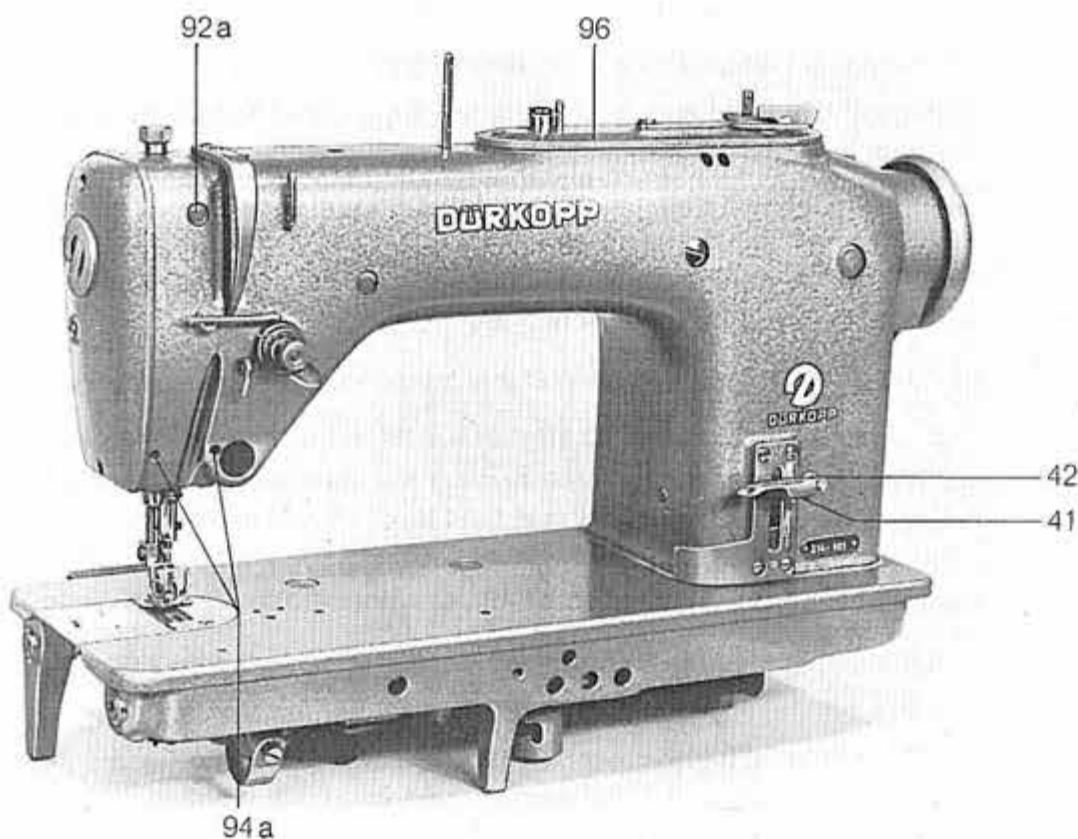
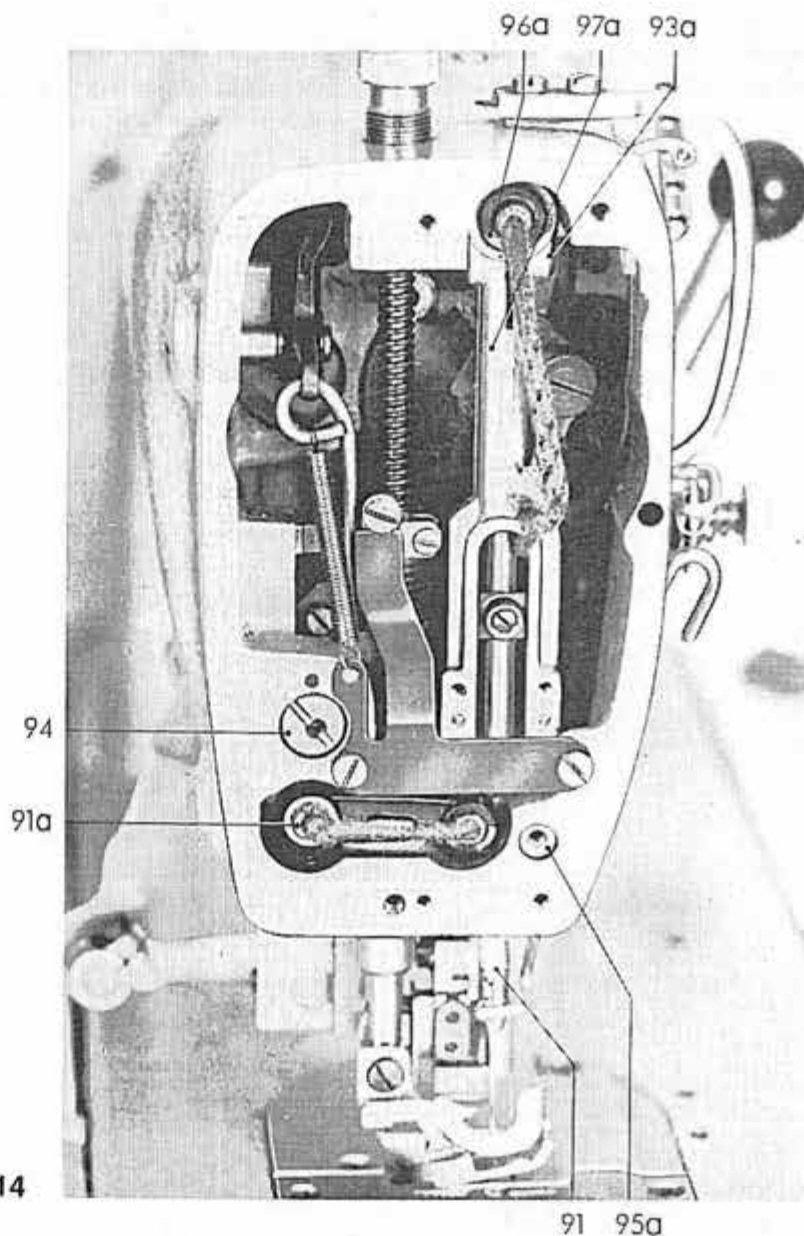
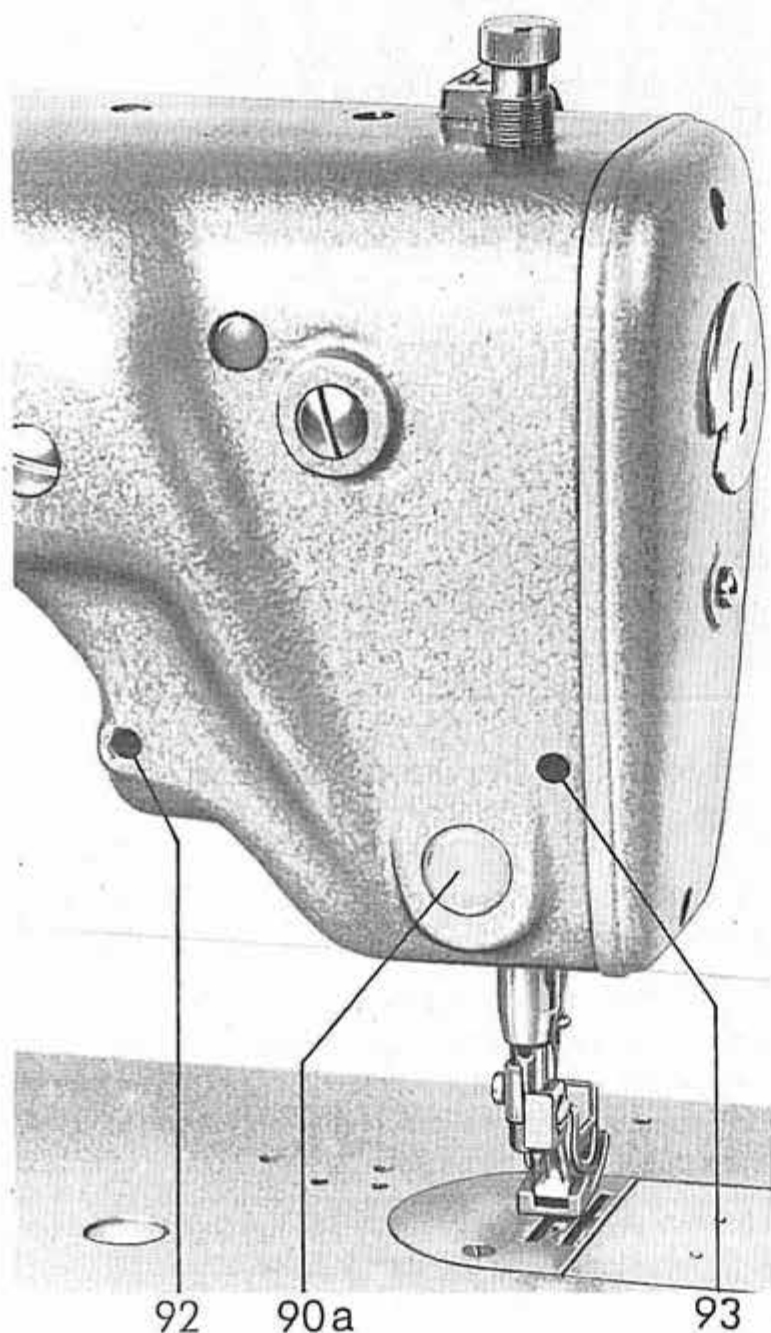
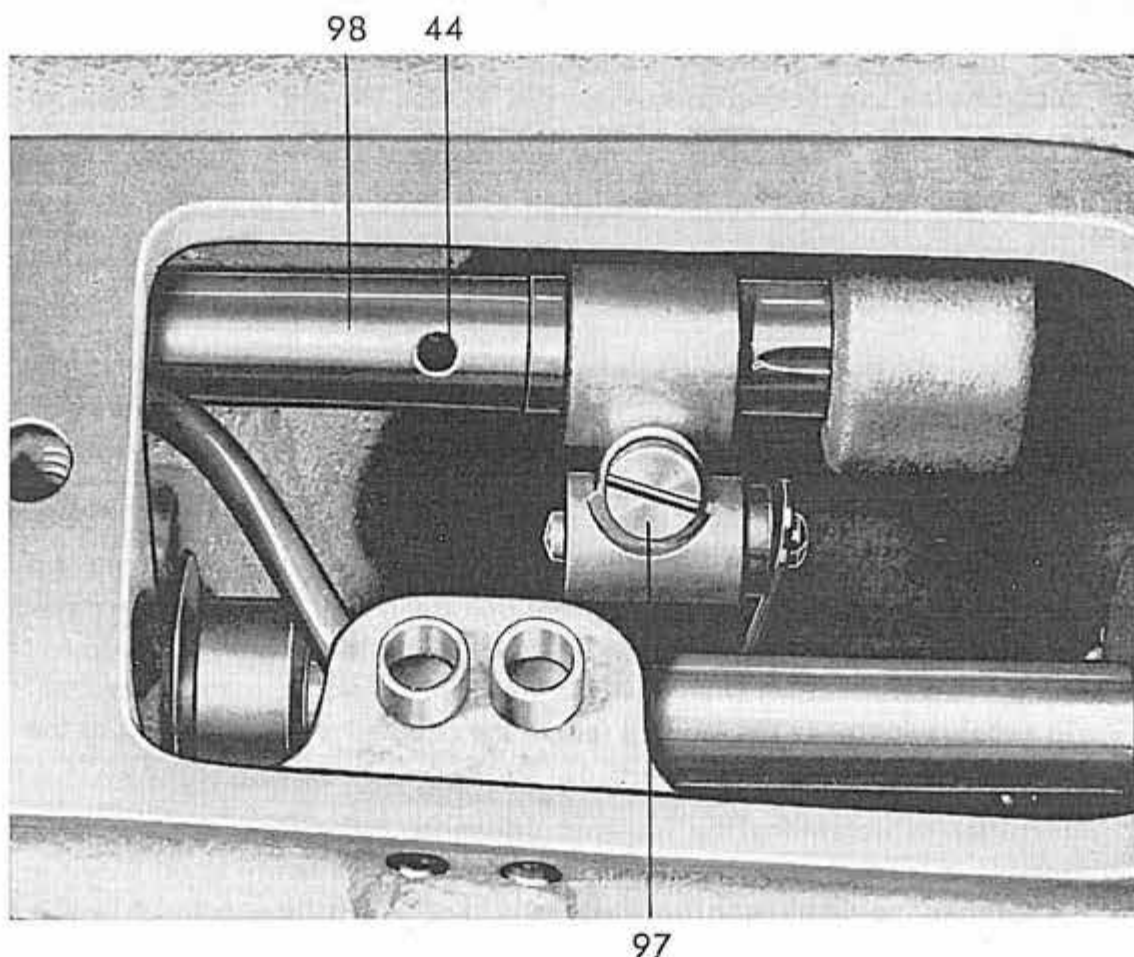

Fig. 13
Fig. 14
Fig. 15
Fig. 16
# 15. **Adjusting the drop feed and the needle feed on DÜRKOPP 212 (figs. 13, 14, 15, 16)**
1. Conduct needle bar 91 (fig. 14) to its lowest point by turning the hand-wheel. In machines with incorporated setting gauge arrest in the position "E". In this position and when moving stitch regulator lever 41 (fig. 13) from maximum forward stitch to minimum reverse stitch, needle bar 91 and feed lever 81 (fig. 9) must have their minimum side movement.
This side movement of the needle can be regulated by turning the eccentric bearing shaft 94 (fig. 14) after loosening the clamp screws 92 and 93 (fig. 15) and that of the feed lever by turning the lower main shaft 95. When turning the eccentric bearing shaft 94 ensure that the longer part of the groove shows upwards (towards the reference point). The bearing shaft should in no case
2. Set stitch regulator lever 41 (fig. 13) on "0" by turning knurled nut 42 counter clockwise.
To adjust the oscillation of the needle bar, remove arm cover 96 (fig. 13). Loosen screw 97 (fig. 16) and turn the shaft 98 accordingly. For regulating the oscillation of the feed lever, loosen the screw 82 (fig. 9) and turn accordingly the shaft 43. To turn said shafts, use a pin, introducing it into the bore 44 of the respective shaft.
In the negative, remove plug 90a (fig. 15), loosen the locking screw, which is then accessible, and adjust the needle bar in the sewing direction by turning the eccentric 91a (fig. 14). (The eccentric lug of the eccentric 91a should always face **downwards**).
For adjusting the needle bar transversally to the sewing direction, remove plug 92a, loosen locking screws 93a (fig. 14) and 94a (fig. 13) and displace, as required, the guides 95a and the cam 97a on the bearing bush 96a.
After having adjusted the needle feed and the drop feed as specified, set first stitch regulator lever 41 for the required stitch length, remove arm cover and loosen slightly thumb screw 97 (fig. 16). Introduce then a mandrel in hole 44 and turn crank shaft 98 in the direction of rotation of the handwheel in order to increase the feeding rate of the needle feed with respect to the drop feed.
**19.2. Adjusting the lateral distance between the bobbin case lifter finger and the bobbin case (figs. 13, 24, 25)**